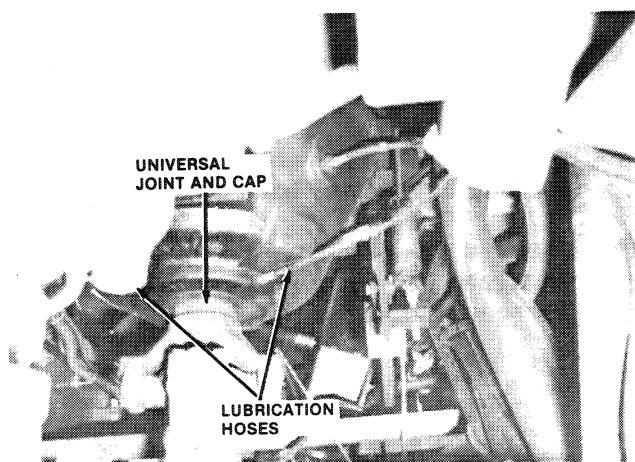

FIGURE 2-6: Clutch and Driveline
30. Remove clutch bearing lubrication hoses from clutch housing fittings (Figure 2-6).